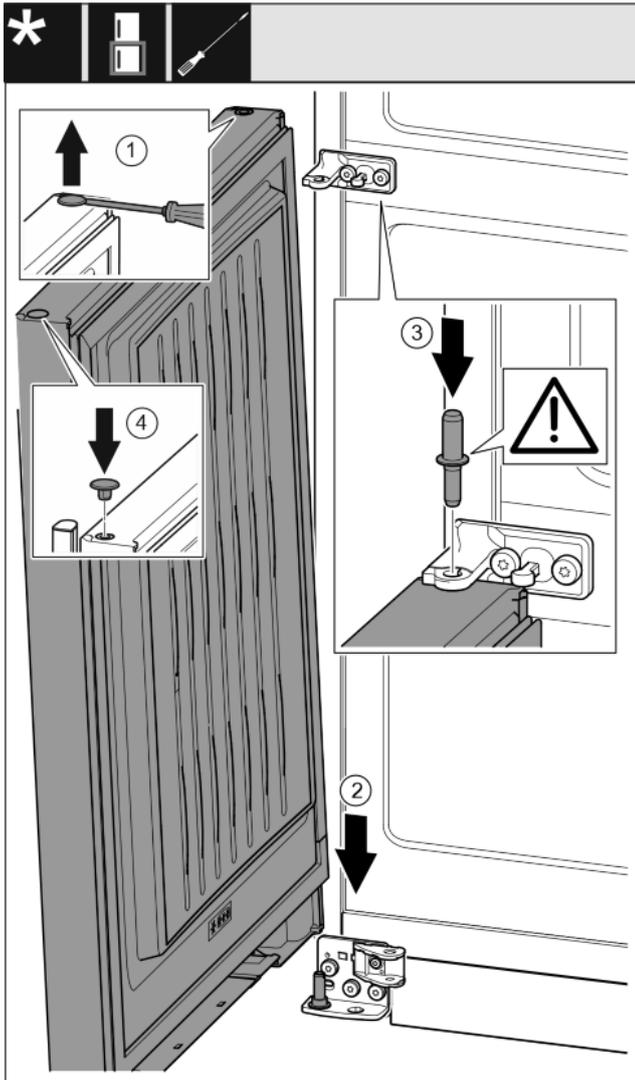

Fig. 32
- ▶ Carefully lift up the plugs with a slotted screwdriver and pull them out. Fig. 32 (1)
- ▶ Place the door onto the lower bearing pins from above. Fig. 32 (2)
- ▶ Insert the centre bearing pin through the centre bearing bracket into the lower door. Make sure that the latching lug is pointing to the rear. Fig. 32 (3)
- ▶ Insert the plugs again on the other side of the door. Fig. 32 (4)